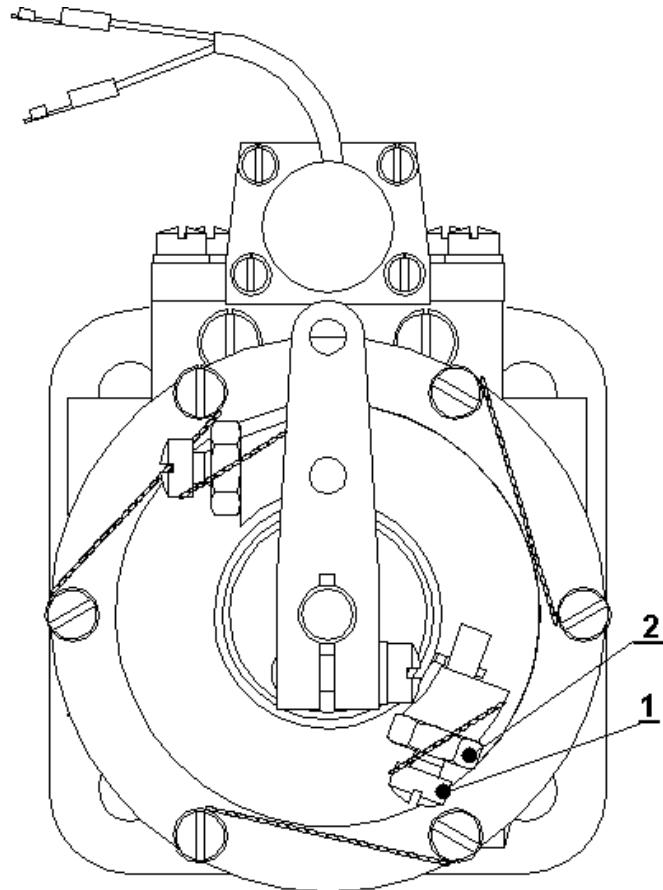

Fig. 9 Maximum rpm setting adjustment
- 9.1** Remove lock wire from the stop screw (fig. 9, pos. 1) and loosen the lock nut (2) of the screw (1).